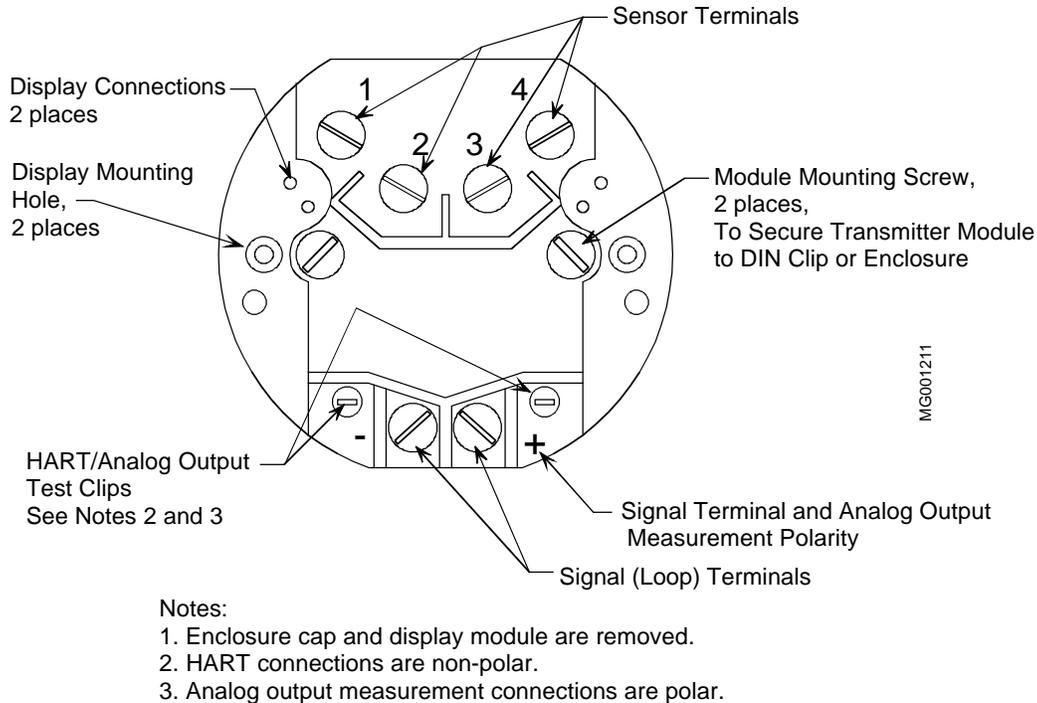

FIGURE 4-11 Signal (Loop), Sensor, HART Communicator and Display Terminals
This section describes signal and sensor wiring. Refer also to Section 4.6 for installations in hazardous locations. Figure 4-11 shows signal and sensor termination terminals.
3. Model 343F only – If desired, loosen the two Module Mounting Screws and pull the module straight out from the enclosure. See Figure 4-11.
4. As oriented in Figure 4-11 there are two terminal areas with #6 screws for field connections.